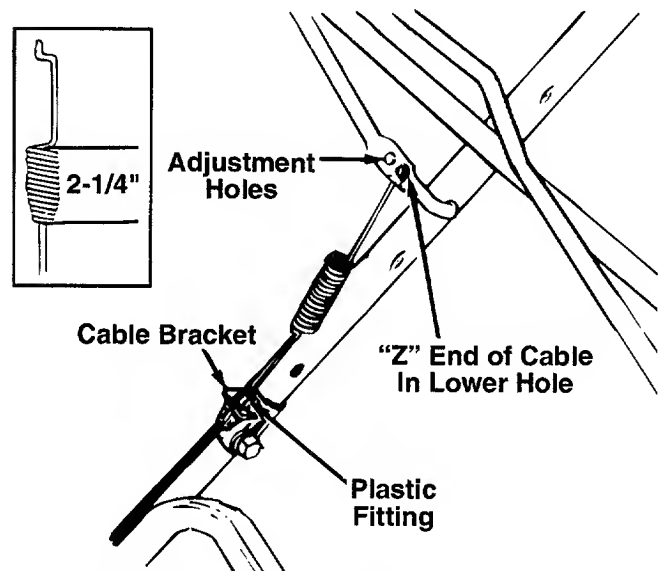

FIGURE 9B.—Style 2 Controls
1. Engage the drive clutch control handle (squeeze handle against the upper handle). Measure the spring on the drive clutch cable. It should measure approximately 2-1/4 inches long as shown in figure 9B, inset.
If additional adjustment is needed, hook the cable into the higher hole in the drive clutch control handle. See figure 9B. Then readjust the cable at the cable bracket.